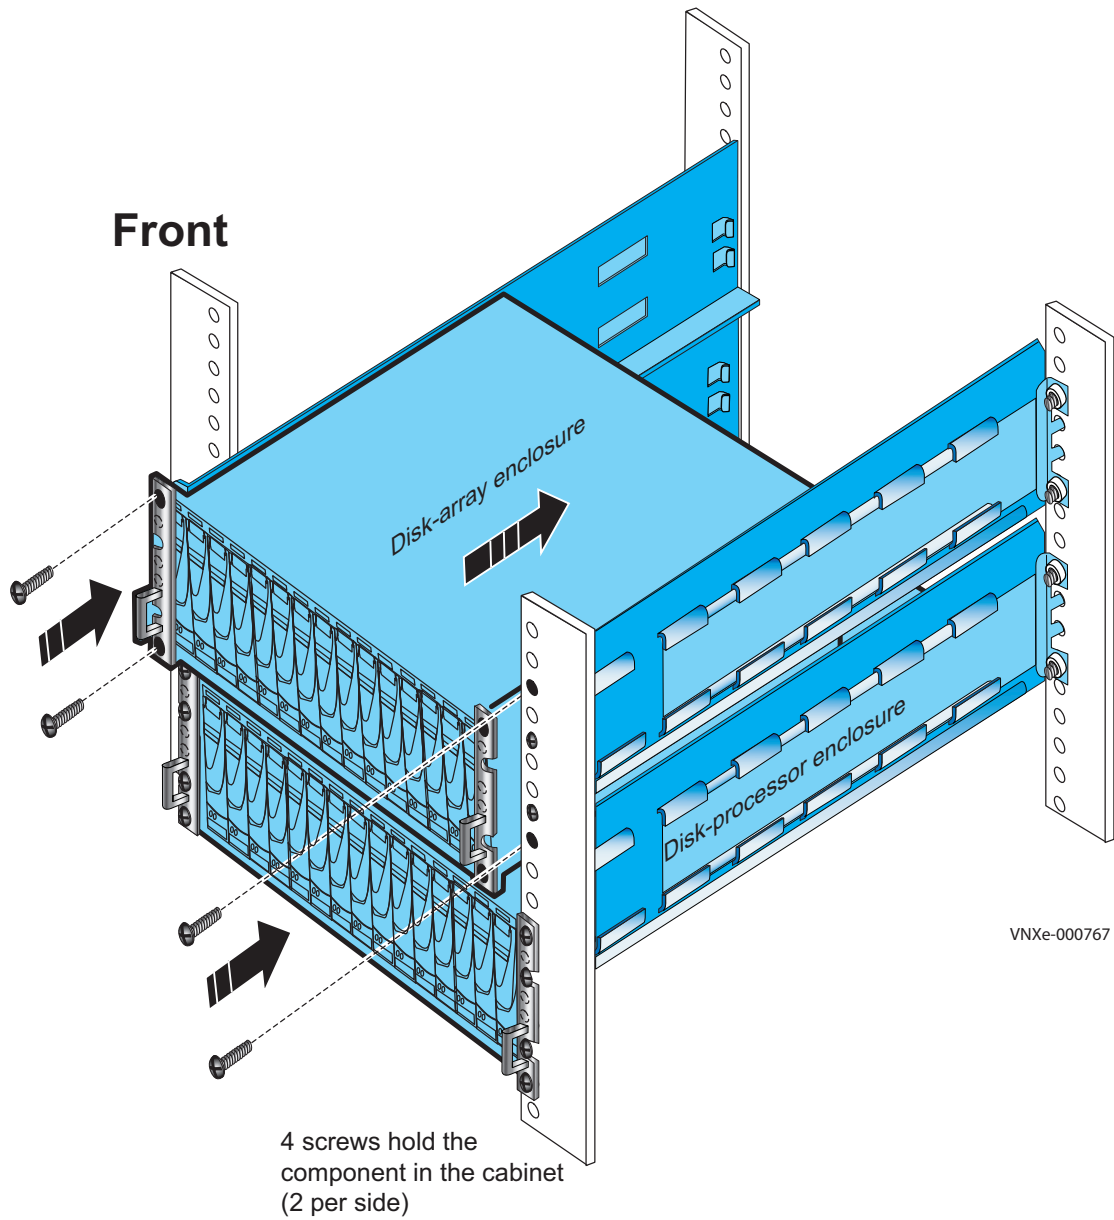

Figure 9 Installing a 3U DAE
1. Slide the disk array enclosure (DAE) into the DAE rails in the cabinet as shown in Figure 9 on page 14 \(3U\) or Figure 10 on page 15 \(2U\).